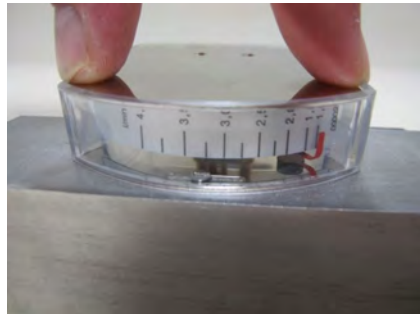

Fig. 71
26. Insert the display cover plate into the plastic housing and gently press (Fig. 71) until it snaps into place.